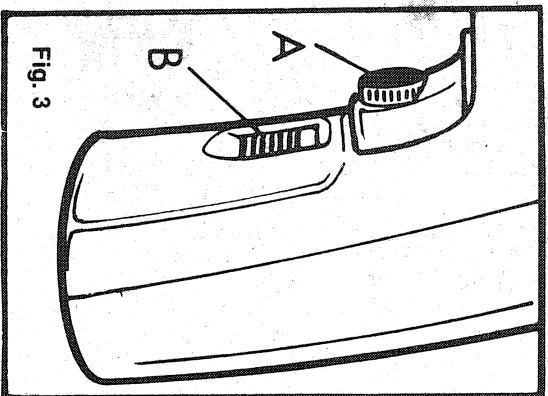

Fig. 3
To lock trigger in "ON" position when using accessories, depress trigger and push up locking button "B", Figure 3, then gently release trigger. To release locking mechanism, depress trigger fully, then release it.
**VARIABLE SPEED TRIGGER SWITCH WITH CONTROL BUTTON:** No. 7190-04 drills only: (a) For normal operations, rotate the Variable Speed Control Button ("A", Figure 3) clockwise until it stops. This permits "FREE HAND" speed control — the farther the trigger is depressed, the higher the R.P.M. (b) To set the trigger switch to produce a selected speed each time it is squeezed, first rotate the Control Button clockwise until it stops. Fully depress trigger, and with the Drill running at highest R.P.M., press in the Switch Locking Button. Release trigger and the tool will stay "ON." Now, rotate the Control Button counterclockwise and you will notice a decrease in R.P.M. Continue rotating Button until desired speed is obtained. To turn Drill "OFF" squeeze trigger and release.
**NOTE:** If unit fails to function or only runs in slow speed ensure that control button ("A" Fig. 3) is backed out completely in a clockwise direction.